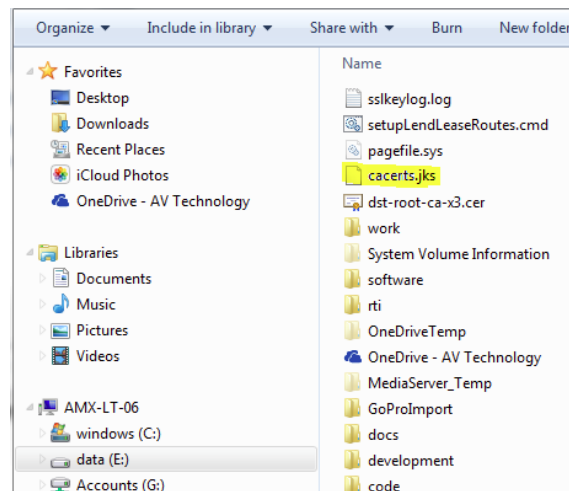

FIG. 476 Copy of the Duet Truststore on the host machine
4. And you should now have a copy of the Duet Truststore from the master on the host machine (FIG. 476):